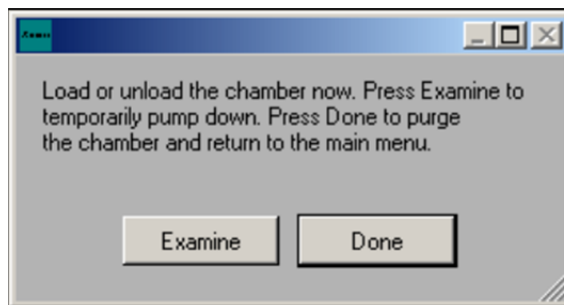

Figure 5: the prompt shows after venting chamber.
- 3) When the chamber is vented, a dialog box as shown in Figure 5 will appear on the computer screen. Now the chamber is ready to open for loading sample.
- 6) Close the chamber lid. Go to the computer and press the "**Done**" button (Figure 5). The system will go through a purging cycle prior to chamber pump-down.